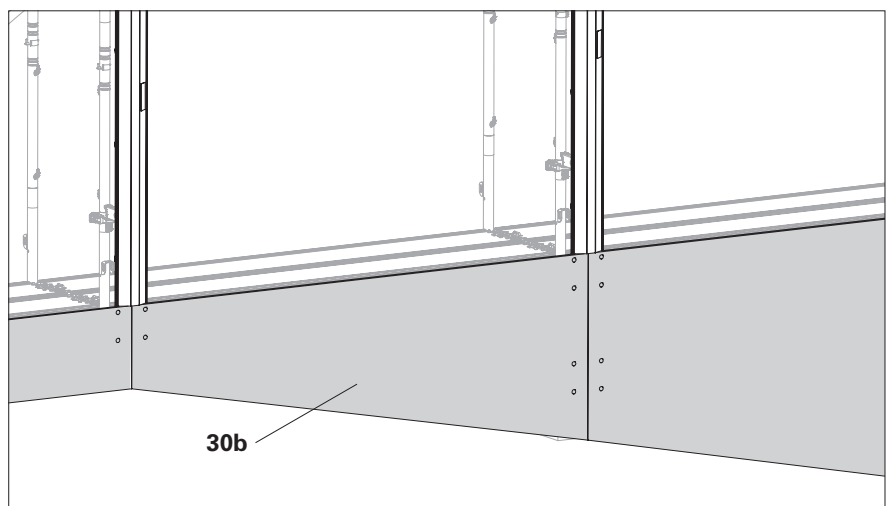

Fig. C4.07a
3. Tighten wooden panel (**30b**) on multi-console bracket with wood screw 5x20 TK-TX20 HSX. (Fig. C4.07a)